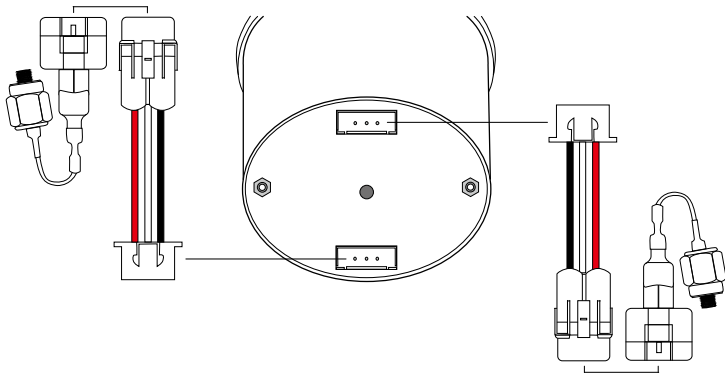

Figure 2.
This gauge is designed for measuring dual air pressures in three digits of Blue LED display (**0-150 psi**), which helps to minimize the space for display and for easier monitoring the readouts. The two sets of pressure sensors are also designed for easy installation into rear of the gauge (**Figure 2.**). This gauge also features dim function in order to provide comfortable reading when head light is on.
5. Plug two sensors wiring harness to upper and bottom plug on rear of the gauge. Connect female and male sensor plug together. **Note:** In case of any abnormal situation occurred, please ensure the sensor wire's plug (sensor_u and sensor_d) are securely connected into the rear of the meter. Please see the enclosed diagram (**Figure 2.**) for reference.